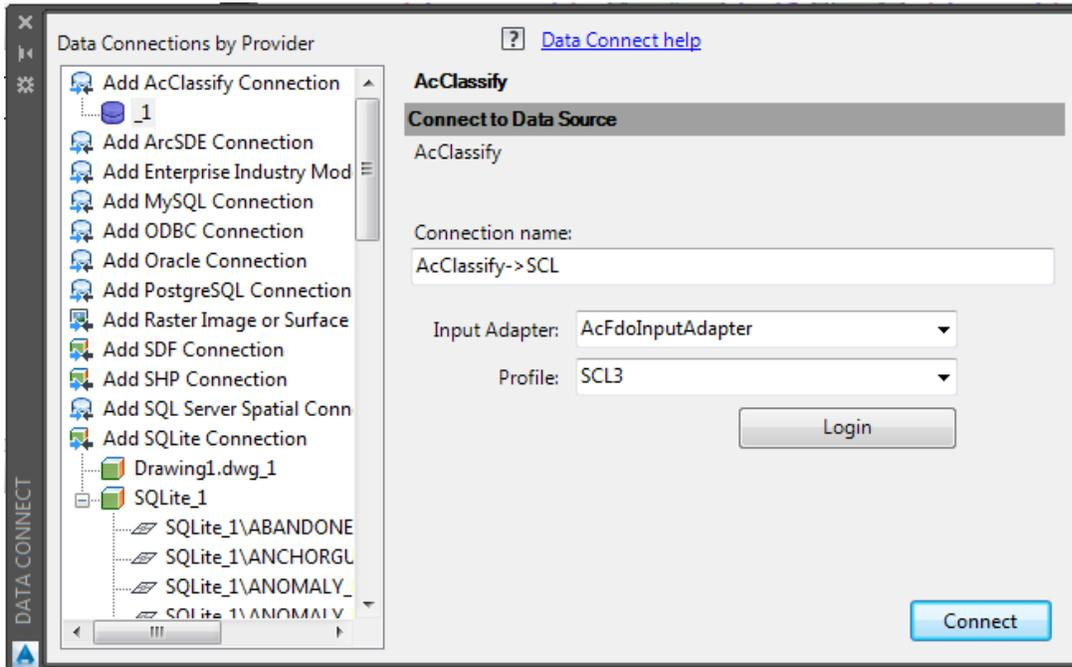

Figure 6 - AcClassify FDO Provider and connection parameters.
- 1) Specify a data connection to the AcClassify FDO using the AcClassify FDO provider (See Figure 6) - Typically, defaults may be accepted (Notice the choice of profile, SCL3 shown).